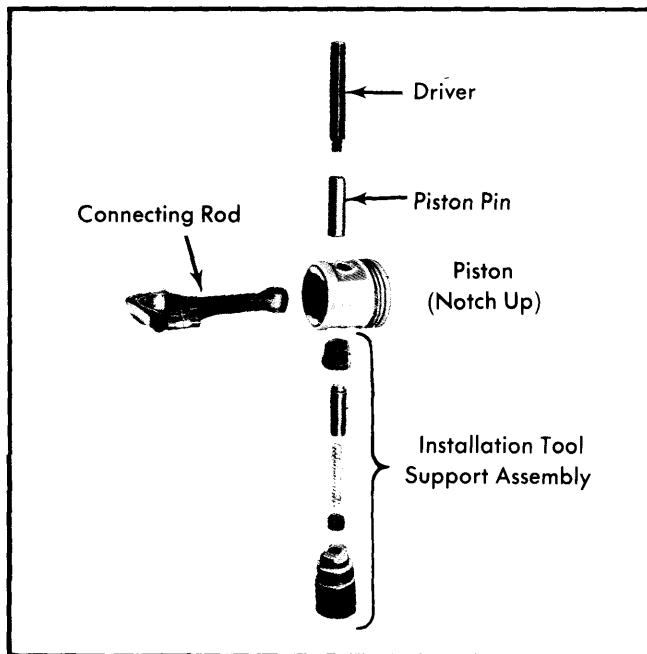

Fig. 12 Piston Pin Installation
1) Piston pin is selective press fit in connecting rod. Using a suitable tool set and a press, remove piston pin and separate piston and connecting rod. See Fig. 12.
2) Inspect pin for wear or scoring. Check clearance of pin in piston. If clearance is excessive, piston and pin assembly must be replaced. Place piston on rod in correct position depending on which bank piston and rod are being installed in. See Figs. 8 through 11. Lubricate piston pin and press into piston and rod using a suitable tool and press. See Fig. 12.